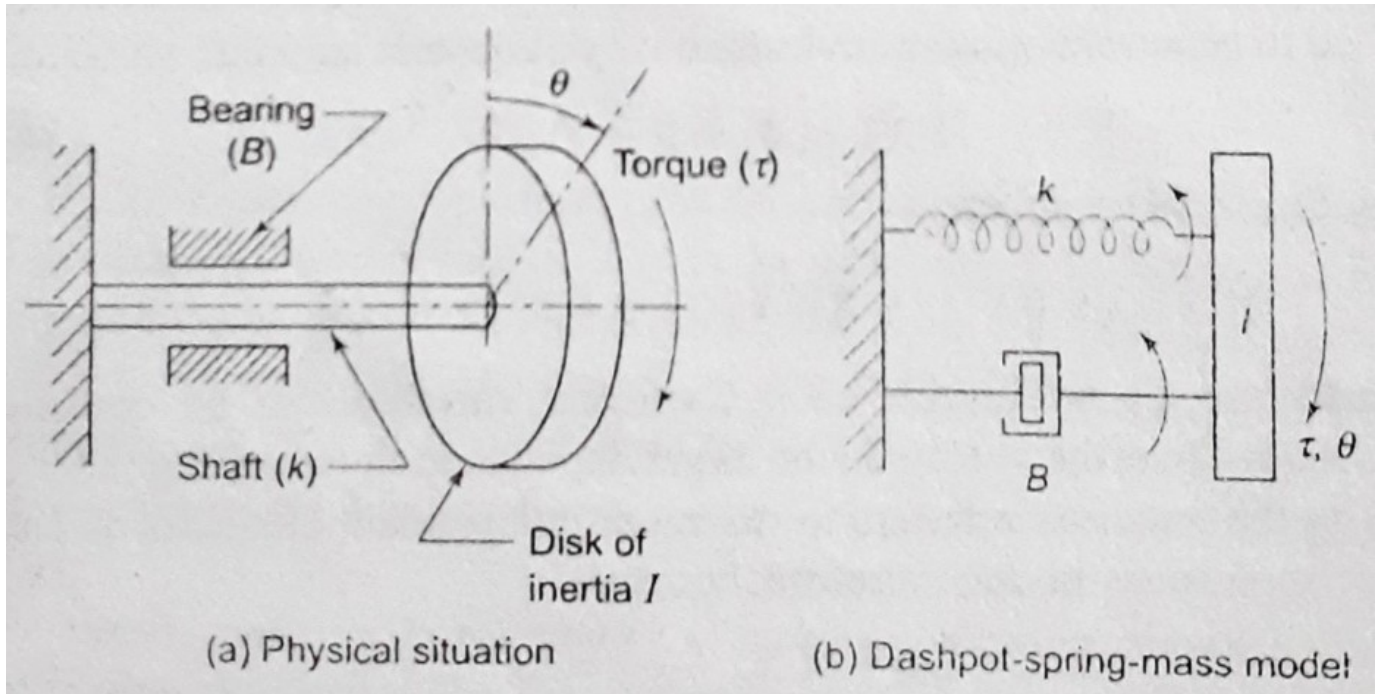

Figure Q5b
- (b) Figure Q5b is a rotational system with a rotational mass at the end of a shaft. The input, a torque τ , is applied to the disk with a moment of inertia I about the axis of shaft, which is fixed at the end. The torsional stiffness of the shaft is K and the bearing friction constant is B . Determine the condition for the system to be critically damped